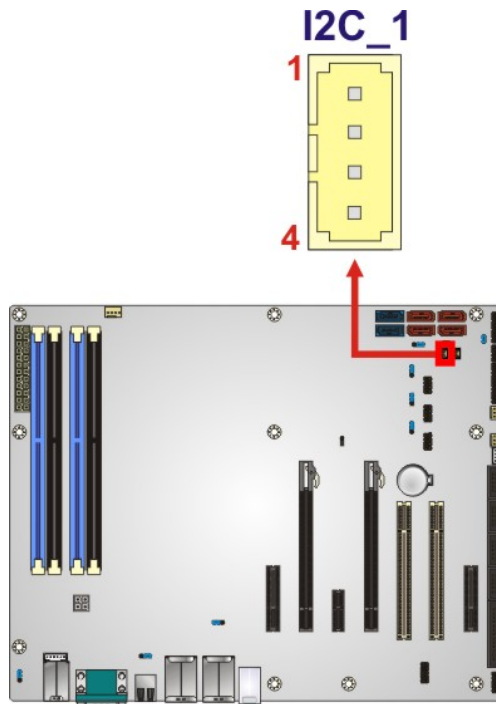

Figure 3-13: I2C Connector Location
- CN Location:** See Figure 3-13